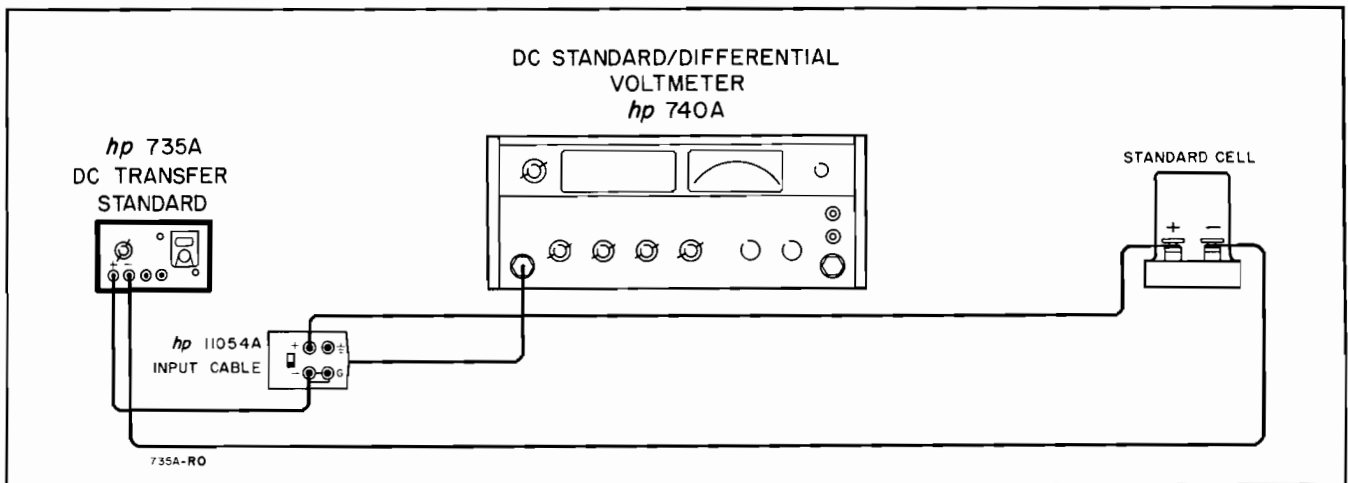
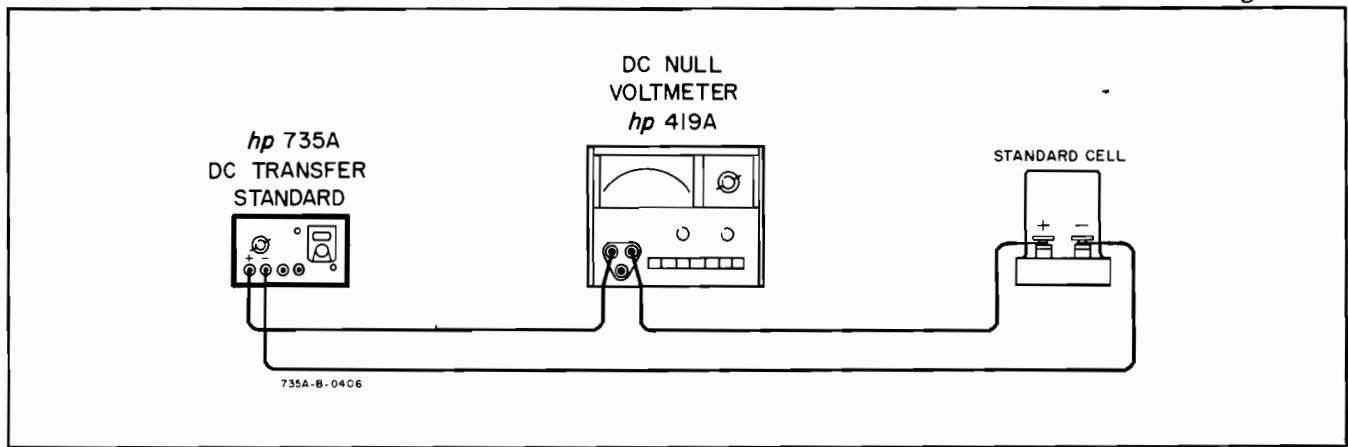

Figure 5-1. Standard Output Accuracy Check
Figure 5-2. Output Noise Test Setup
- d. Connect the 735A as shown in Figure 5-1. (Use solid copper wire tightened securely for all operations of the 735A.) Use an unsaturated standard cell and connect the positive terminal of the standard cell to the positive terminal of the 740A.
- m. Absolute reference may be checked by connecting the 735A as in Figure 5-1 or Figure 5-2 using the saturated standard cell (1 ppm)
- a. Connect the Model 735A as shown in Figure 5-2.
- p. Final adjustment: connect the 735A as in Figure 5-1 or Figure 5-2 using a calibrated saturated Standard Cell and a 419A Null Voltmeter or 740A Differential Voltmeter.